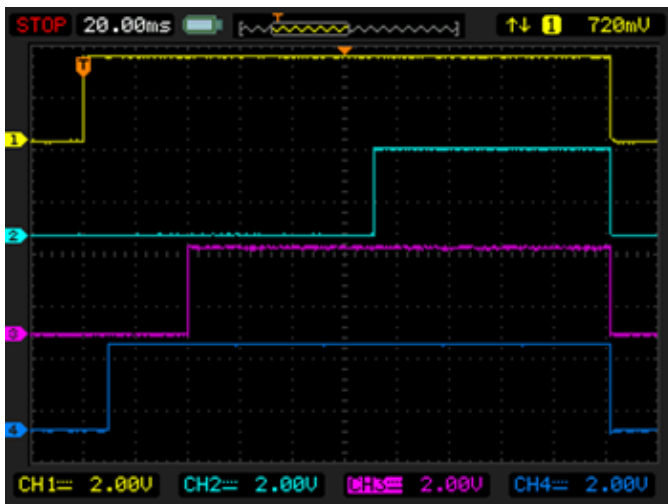

Figure 4. Sequencer Functionality Waveforms
As can be seen on Figure 4, Sequencer is implemented using Pipe Delay with data and reset inputs connected to SEQUENCER\_IN (PIN2), clock input to CNT0/DLY0 output (as it together with LUT3-bit0 forms an oscillator), 1 PIPE OUT to 1\_PIPE\_OUT (PIN10), OUT1 to SEQUENCER\_OUT1 (PIN11), OUT0 to SEQUENCER\_OUT0 (PIN12), all outputs have Output Enable connected to VDD as they are configured as push-pull.
*Note: for proper operation of circuit don't forget to configure input and output pins correctly. In case of schematic you see on Figure 4 inputs are configured as digital input with Schmitt trigger, and outputs as push-pull.*